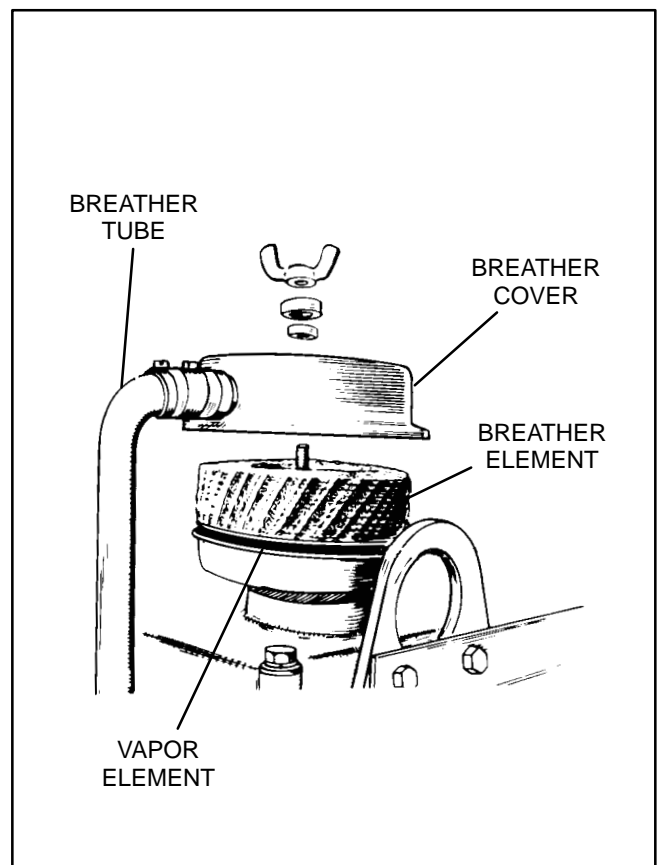

FIGURE 7-4. CRANKCASE BREATHER FILTER
1. Remove wing nut, flat washer and rubber washer holding cover, lift cover and swing away from filter assembly (see Figure 7-4).